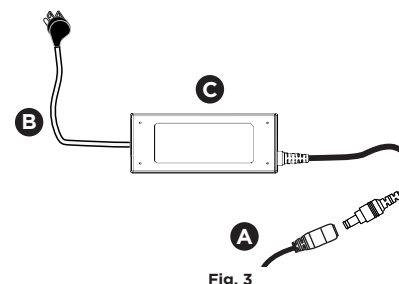

Fig. 3
- Plug in the connector of the two Heaters A into the Power Supply C (Fig. 3).